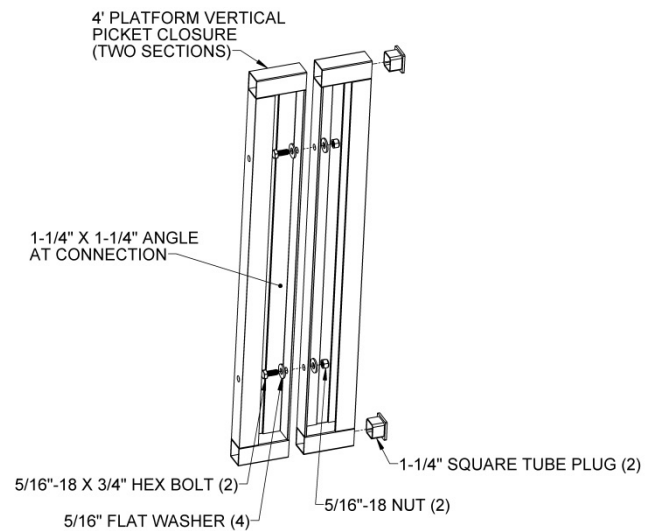

FIG. 5.14
👉 The 4' closure includes angles (rather than channels) on one side to allow access to the assembly fasteners. Always bolt the 4' closure together using the side with the angles and attach the side with the channel to the platform post (FIG. 5.14).
- 5.6.9. Cut a 1 1/2" diameter round tubes and the 1-1/2" x 2" curb to the measured gap length less 1/8" to account for the threaded inserts which will be installed after cutting (FIG. 5.14).